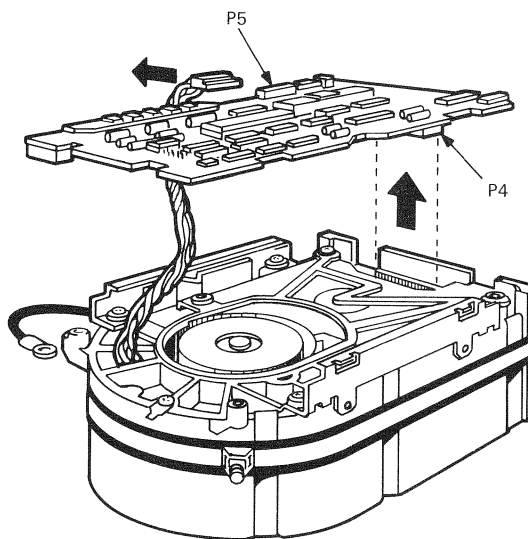

Figure 10-13 Main Printed Circuit Board Removal
6. Lift the MPCB straight up until it clears the chassis. This disconnects P4, a 12-pin fixed plug (Figure 10-13).